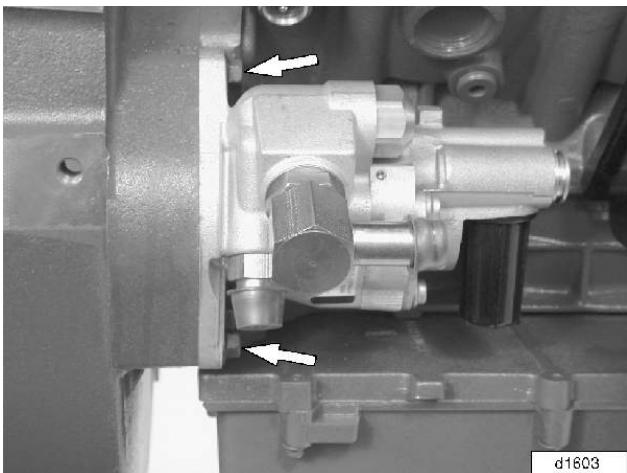

Figure 12 Power Steering and Fuel Pump Assembly Mounting Bolt Location
13. Remove two M10 x 30 power steering and fuel pump assembly mounting bolts (Figure 12).